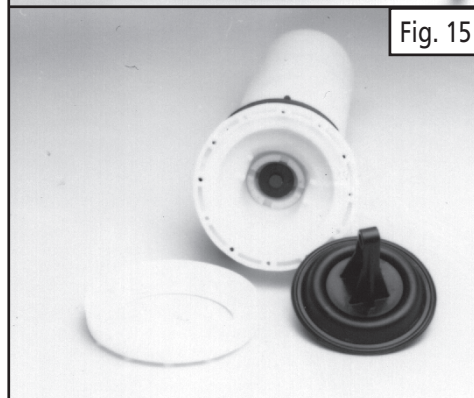

Fig. 15
- 4) Next remove the 12 torx screws that hold the flange in place. The flange and diaphragm can then be removed. (See Figure 15). Note: Pressure cylinder is shown removed from tank.